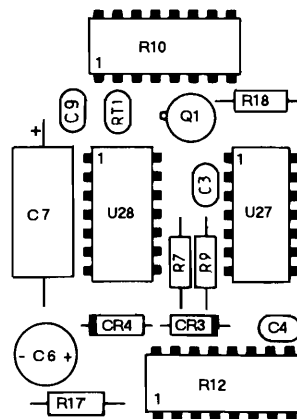

Figure B-14. 08116-66513: U28 layout
5. Figure B-14 shows the location of U28 and other additional components, modify Figure 10.7-9 accordingly.